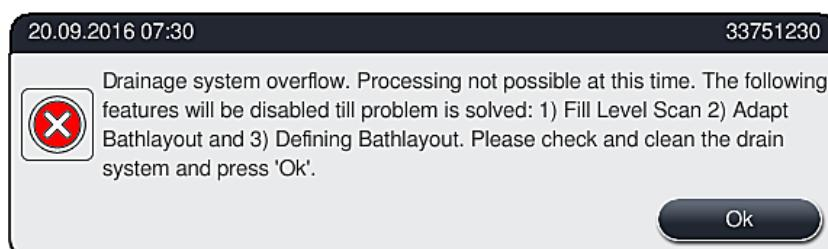

Fig. 117
Water drain system blockage (in the drainage sieve (→ "Fig. 97-1") or in the drain hose (→ "Fig. 8-1")) can lead to rising water levels in the drain pan. As a result, a critical water level can be reached in the instrument. The user receives an error message (→ "Fig. 117") on the screen and an alarm sounds.
1. Open the instrument cover if the warning message appears (→ "Fig. 117").